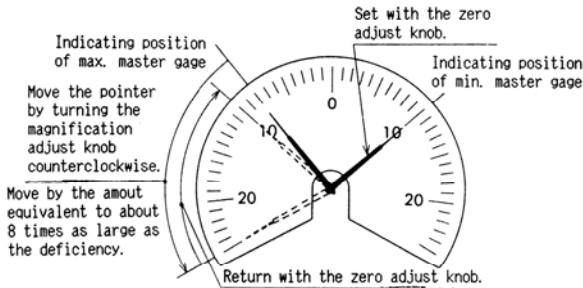
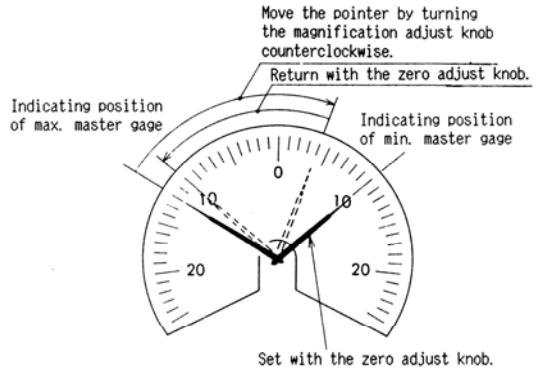

Fig.1 When magnification is insufficient
Fig.2 When magnification is excessive
The air is discharged into the atmosphere from the nozzle of the gaging head and the zero adjust throttle. (MD-24 Series have two independent circuits as shown in Fig. 1.)
- 5) When the pointer does not reach "10" on the left scale (Fig. 1), the magnification is too low. In this case, once turn the magnification adjust knob clockwise until the pointer exceeds "10" and reaches "25" on the left scale and then, turn the zero adjust knob clockwise so as to return the pointer to "10" on the left scale. (The Fig. 2 shows how to adjust when the magnification is too high.)
Refer to Fig. 1 and Fig. 2.